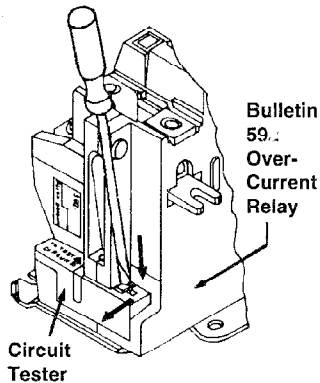

FIGURE 1
1. To remove circuit tester, insert screwdriver into slot in circuit tester (figure 1) and depress retainer arm. Pry or slide circuit tester out of relay housing.